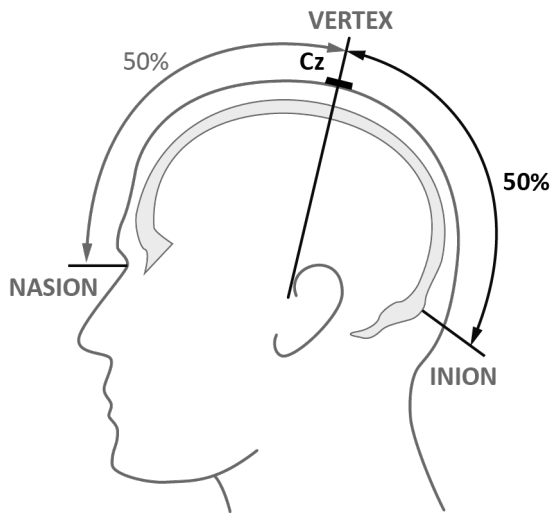

Fig. 45. Cz.
5. Measure distance from the nasion toinion (the lump on the back of the head), and mark a small line at the halfway point. Measure distance between the external auditory meatuses and mark the point at which it crosses your first mark. This is Cz or Vertex (Fig. 45).